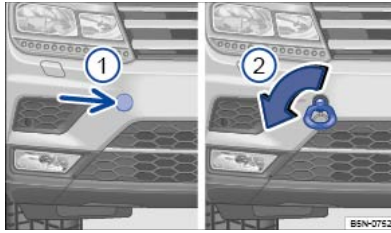

Fig. 220 In the front bumper, right-hand side: towing eye.
The towing eye is screwed into a threaded hole behind a cover on the right of the front bumper \Rightarrow Fig. 220.
- Press the side of the cover \Rightarrow Fig. 220 ① (arrow) to release the cover fastener.
- Turn the towing eye \Rightarrow Fig. 220 ② as shown by the arrow into the threaded hole and tighten as far as possible \Rightarrow ①. Use a suitable object to screw the towing eye fully and securely into the mounting.